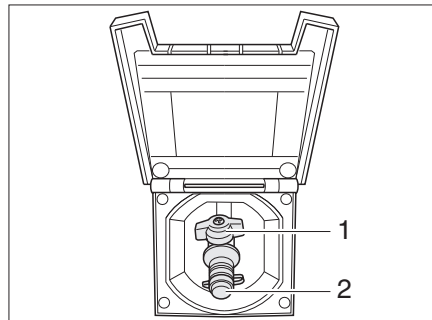

Fig. 82 External gas connection, gas isolator tap closed
The external gas connection (Fig. 82) is located at the rear or to the left or right of the vehicle depending on the model.
- Connect the external gas device to the connection point (Fig. 82,2).
- Open the gas isolator tap (Fig. 82,1).